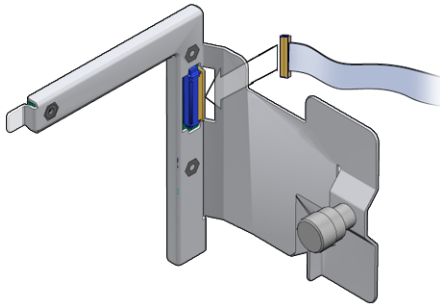

FIGURE 3-42 Connecting the Cable to the LED Board
2. Connect the cable to the LED board (FIGURE 3-42).